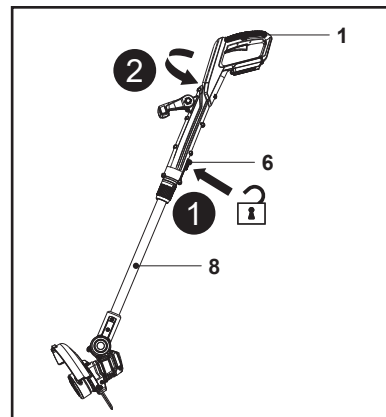

Fig. 8 (initial position 180°)
2. Press down the unlock button (6) and turn the main handle (1) anticlockwise while holding lower pole (8) to adjust the trimmer head (12) to an angle of 0° (Fig. 8). Release the unlock button (6) and keep turning the main handle (1) until it locks in place. Ensure the unlock button (6) snaps into place.